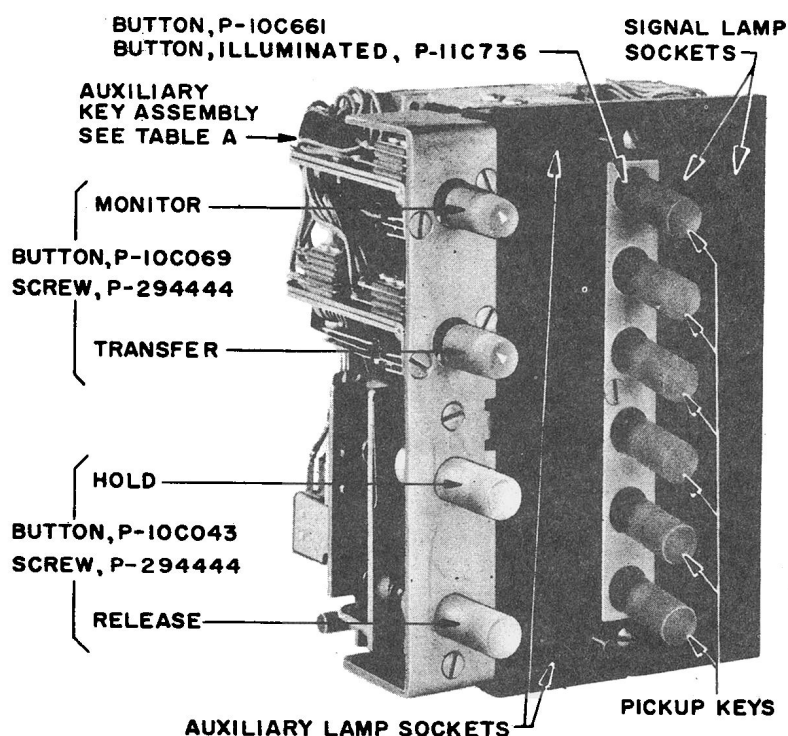

Fig. 5 — Originating Key
3.03 Only one originating key is required since four of the buttons provided on this key are common to an entire assembly (Fig. 5).